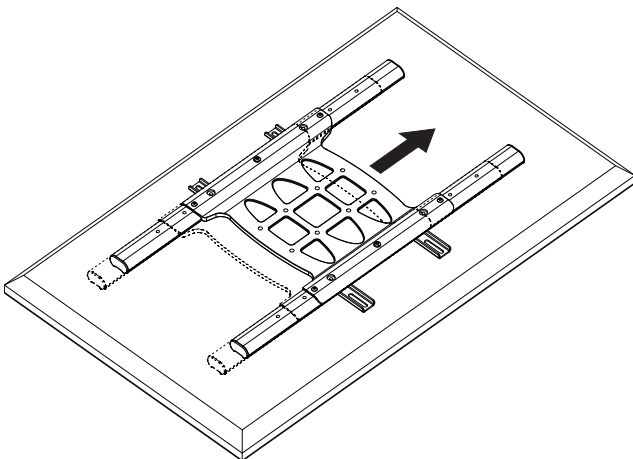

fig. 3.3
**3-4** Center screen brackets horizontally on back of screen as shown in figure 3.3.